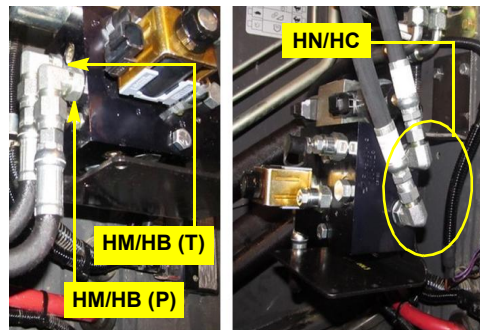

Figure 6: Pressure and tank hoses at steering block (left); steering hoses at steering block (right)
At the hydraulic steering block (Figure 6) connect:
- Pressure and tank hoses **HM** to adapters **HB** in the steering block (Figure 6, left)
- Steering hoses **HN** to adapters **HC** in the steering block (Figure 6, right).